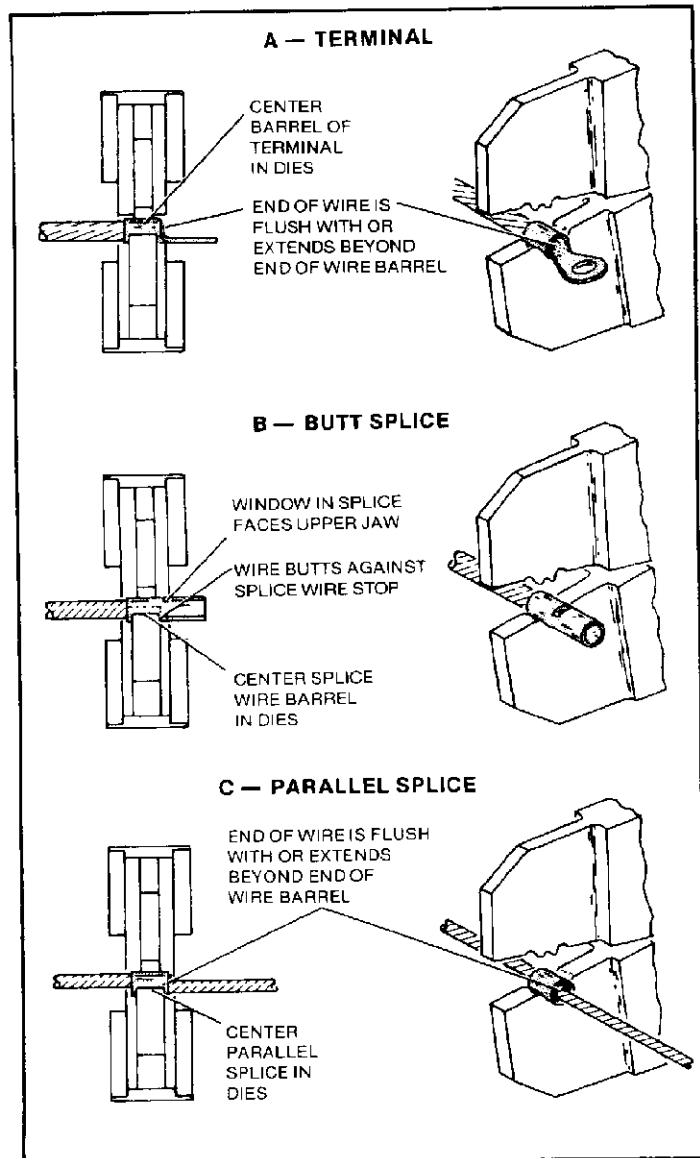

Figure 3
- Place terminal or splice in crimping jaws as shown in Figure 3 A, B or C. Position the butt splice so that the window of splice faces upper jaw. See Figure 3B. **IF TOOL HAS "HOLD" FEATURE:**
- Position terminal or splice in crimping jaws as shown in Figure 3 A, B or C. Be sure window of butt splice faces upper jaw as shown in Figure 3B.